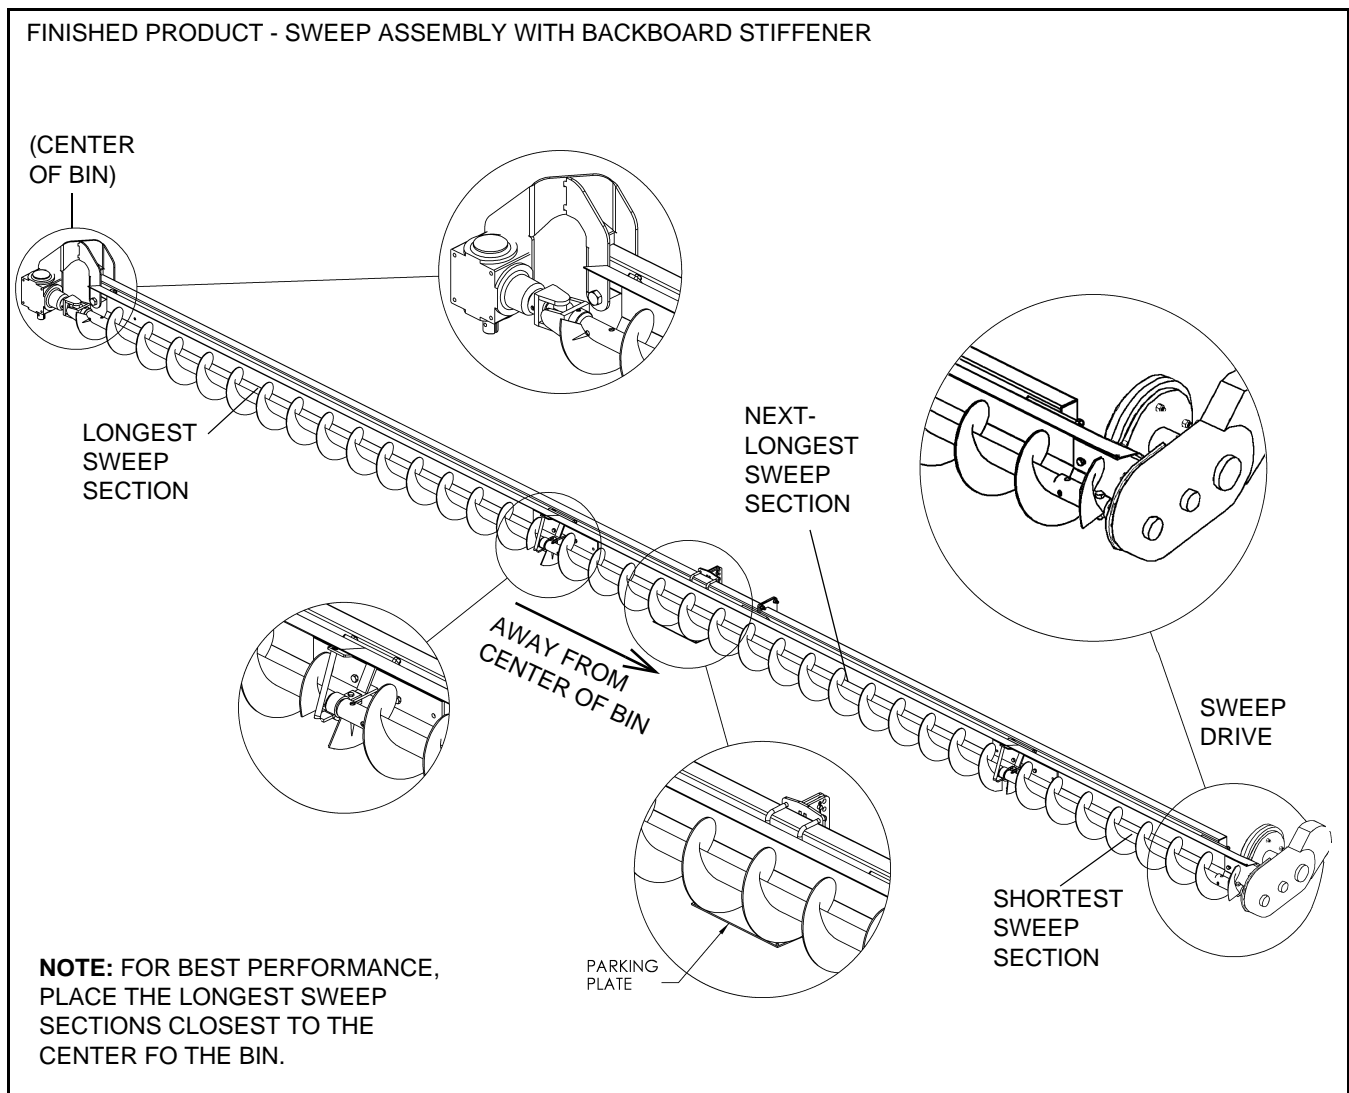

Figure 4.27
1. Before beginning with sweep assembly, refer to Figure 4.27 . Always begin with longest sweep section at the center of the bin and work your way out.
Note: Inspect the sweep section as a whole, and ensure that the plastic bushings (between sweep sections) are not interfering with the sweep flighting. Use the adjustable slots on the pivot arch and on the upper gearbox (Figure 4.27) to ideally position the backboard and plastic bushing mounts.